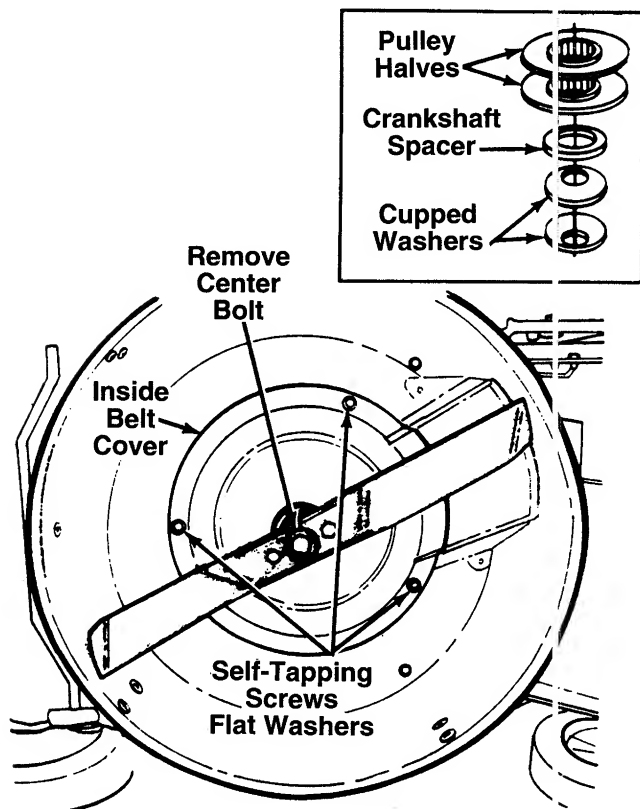

FIGURE 19.
5. Remove the center bolt which secures the blade to the crankshaft. See figure 19. Remove the blade and blade adapter.
6. Remove the inside belt cover by removing three self-tapping screws and flat washers. A 3/8" wrench is required. See figure 19.
NOTE: If the cupped washers and crankshaft spacer are removed for any reason, make certain they are reassembled as shown in figure 19, inset.